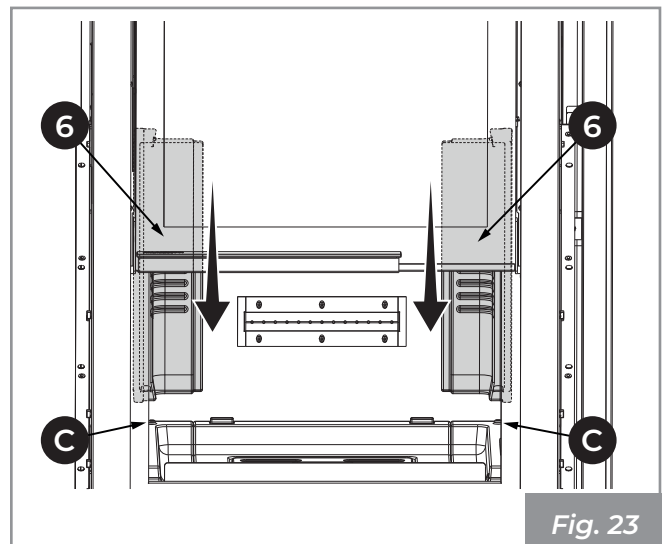

Fig. 23
- 7) Place the refractory angular plates (6) into the combustion chamber and gently slide it into position, centring them with the protuberances (C) present in the refractory brick base (Fig. 23)